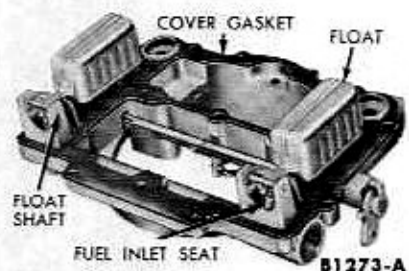

FIG. 37—Fuel Inlet Needle, Seats, and Float Installed
6. Place a new air horn gasket on the air horn, then install the fuel inlet needle seats, gaskets, and needles (Fig. 37). Install the fuel inlet needles in their matched seats. Do not install the left needle in the right seat or vice versa. Inlet needles and seats are matched assemblies.
7. Install the floats on the same side of the carburetor from which they were removed (Fig. 37), then refer to "Carburetor Bench Adjustments" and adjust the float alignment, float setting, and float drop.